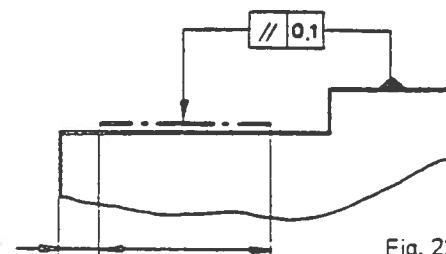

Fig. 22
4.7 If the tolerance is applied to a restricted part of the feature only, this should be dimensioned as shown in Figure 22 (analogous with N 001.043.70 clause 2.5).